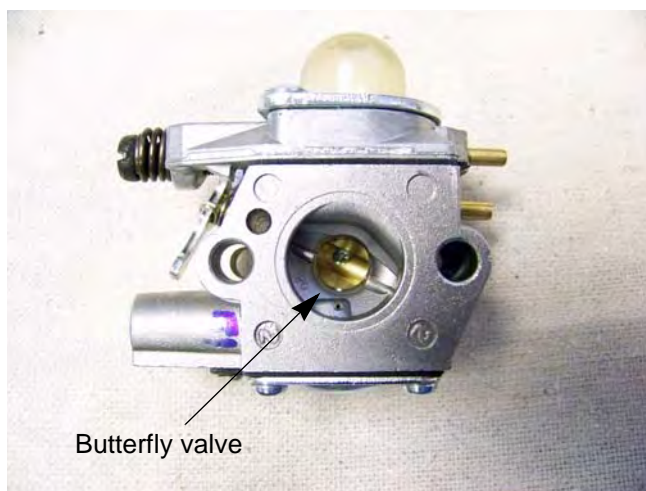

Figure 5.14
7. Inspect the butterfly valve assembly for debris and freedom of movement. See Figure 5.14.